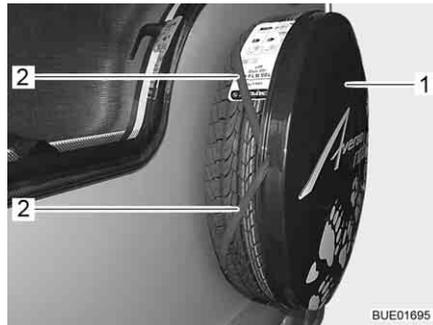

Fig. 232 Cover plate
- Remove cover plate (Fig. 232,1). Do this by removing the rubber expanders (Fig. 232,2) from the tyre